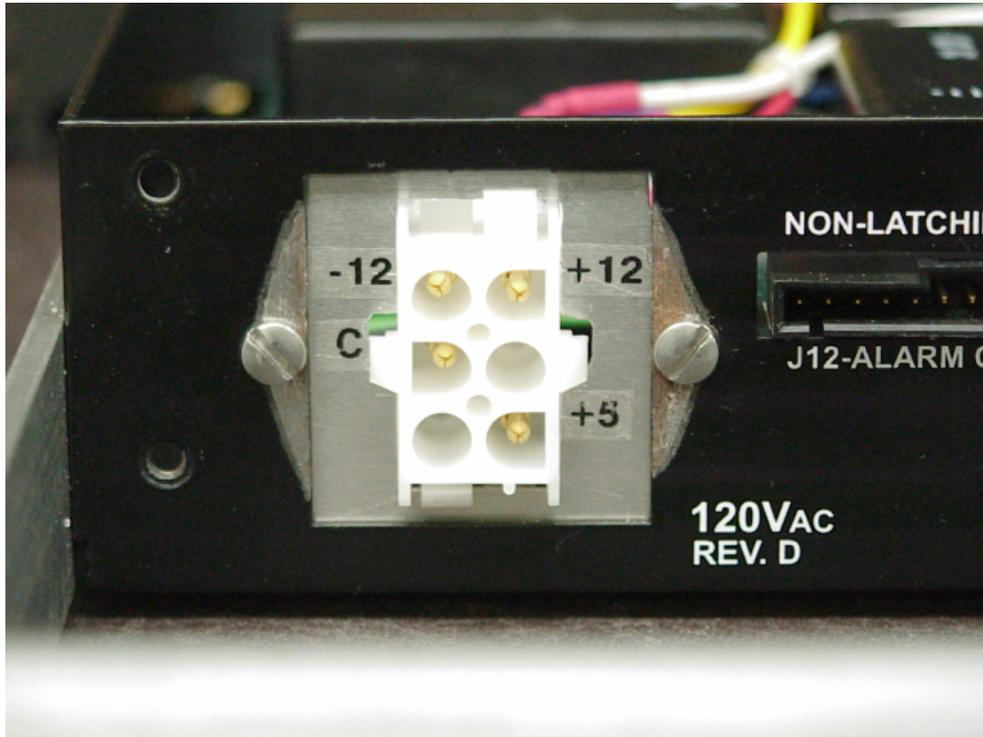
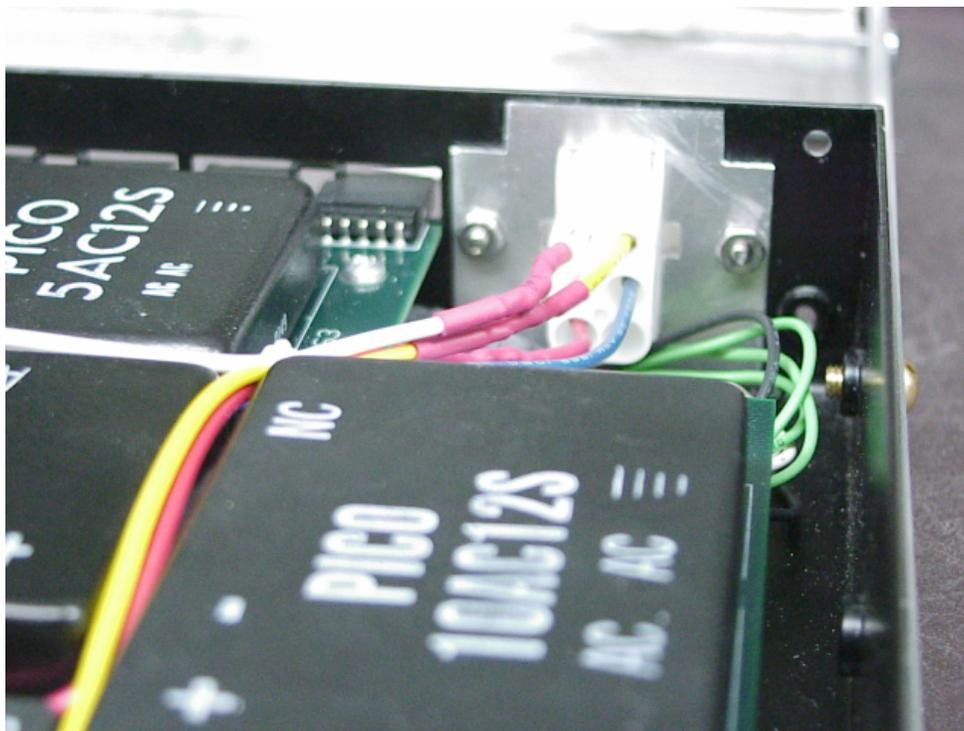

Figure 5. Rear View of Receptacle and Mounting Plate
Figure 6. Interior View of Receptacle and Mounting Plate
4. Insert the connector shell into the plate, as shown in Figure 5 and Figure 6.